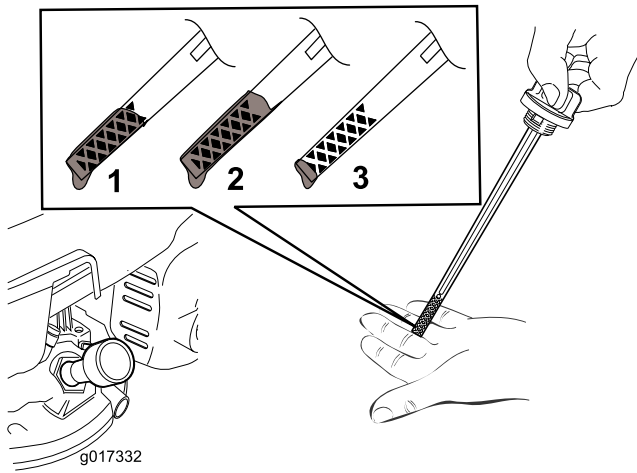

Figure 7
2. Remove the dipstick (Figure 7).
Note: Fill the engine crankcase with oil until the dipstick indicates that the engine oil level is correct as shown in Figure 7. If you overfill the engine with oil, remove the excess oil as directed in Changing the Engine Oil.